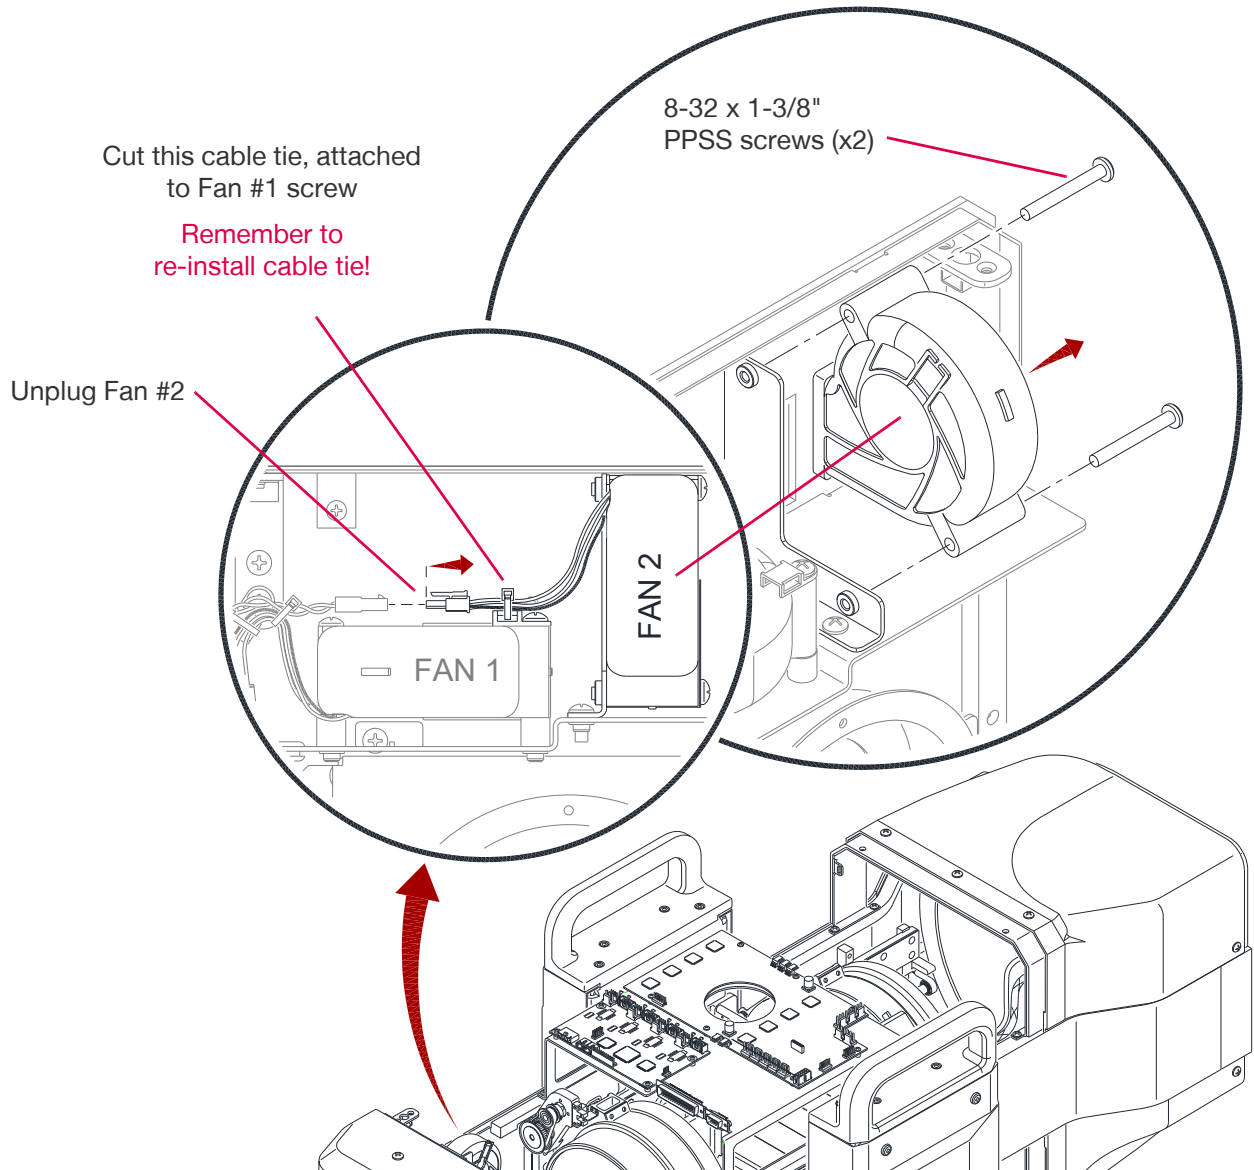

Figure 3-37: Replacing AFT Bulkhead Fan #2
- Step 4. Cut cable tie securing power leads for Fan #2, which is attached to the PPSS screw on Fan #1; unplug connection for Fan #2. (**Figure 3-37**)
- Step 5. Remove two (2) 8-32 x 1-3/8" PPSS screws securing the #2 Fan.
- Step 7. Plug in Fan #2, and make sure to re-install the cable tie on the Fan #1 mount. (**Figure 3-37**)